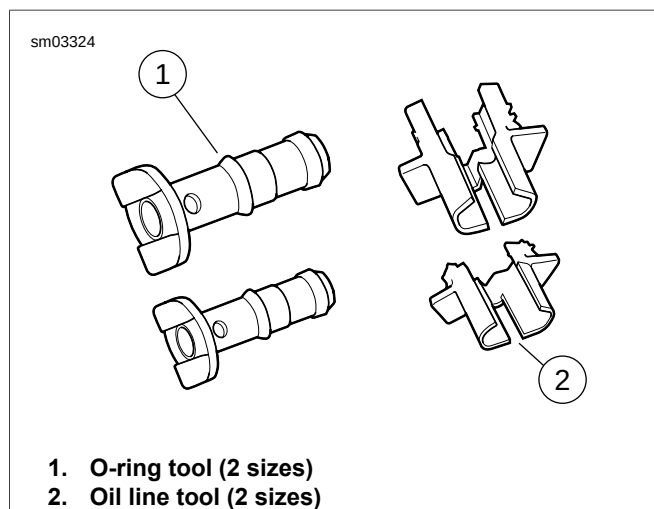

Figure 3-175. Oil Line Tools
- There are two sizes of oil line retainers and fittings. Use the appropriate sized oil line tool for all service procedures. See Figure 3-175.